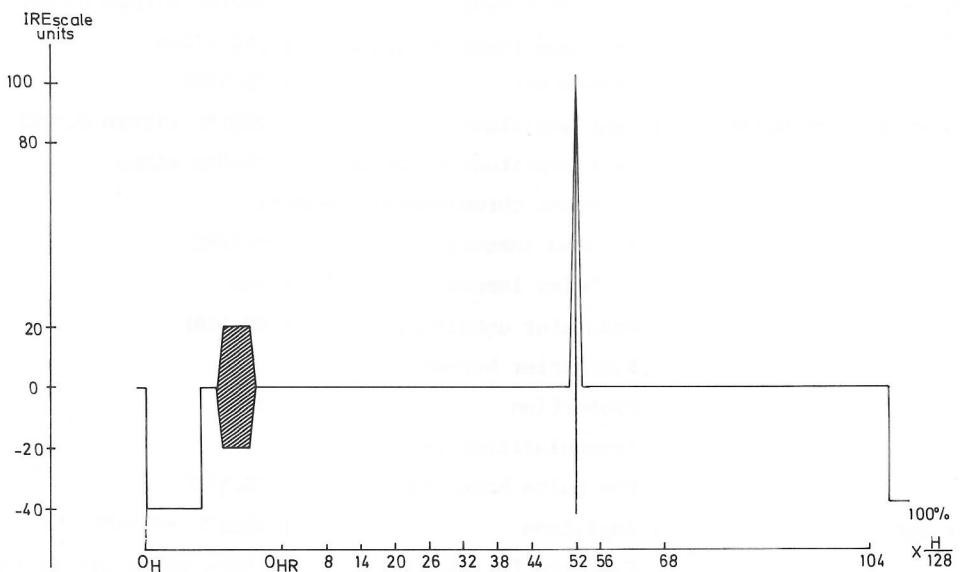

Fig. 3-12 2T pulse
7. (L) 2T sine2 pulse (See also fig. 3-12)
Timing : see fig. 3-12